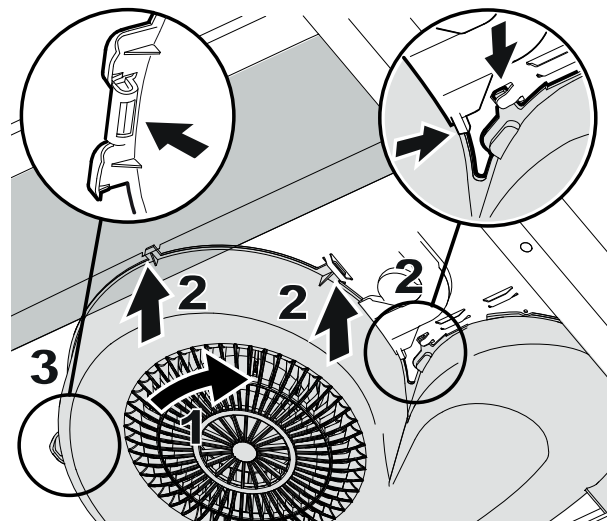

Fig. 8
Make sure all the snap retainers fit onto the cooker hood lugs. Twist the blower (1) into the lugs (2). Press the blower's snap retainer back into the lug (3).Fig. 8